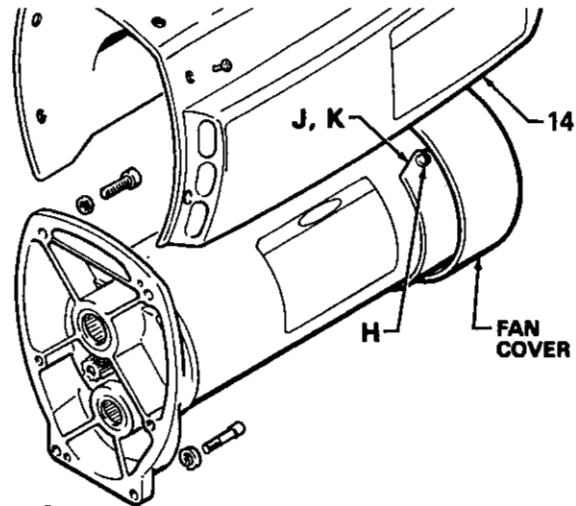

Fig 13
1. Remove the motor cover (14). See Fig 13.
2. Remove the screws (H), inspection covers (J) and gaskets (K) on each side of the motor. See Fig 13.